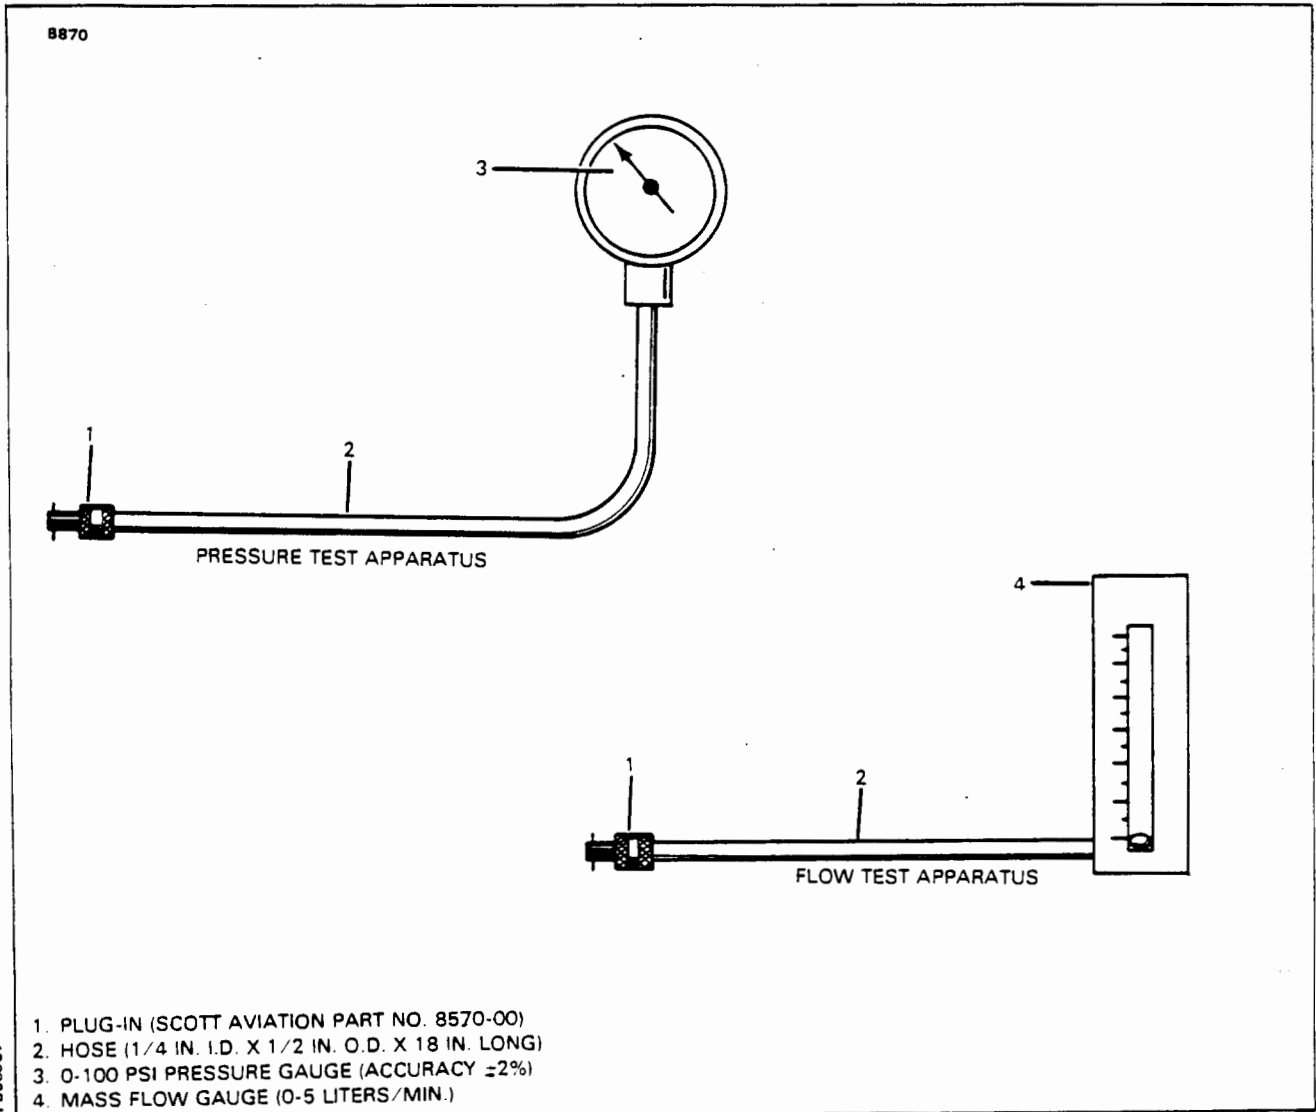

Figure 35-3. Test Apparatus For Testing Oxygen System
4. An operational check of the regulator can be accomplished as follows: (Refer to Figure 35-3.)